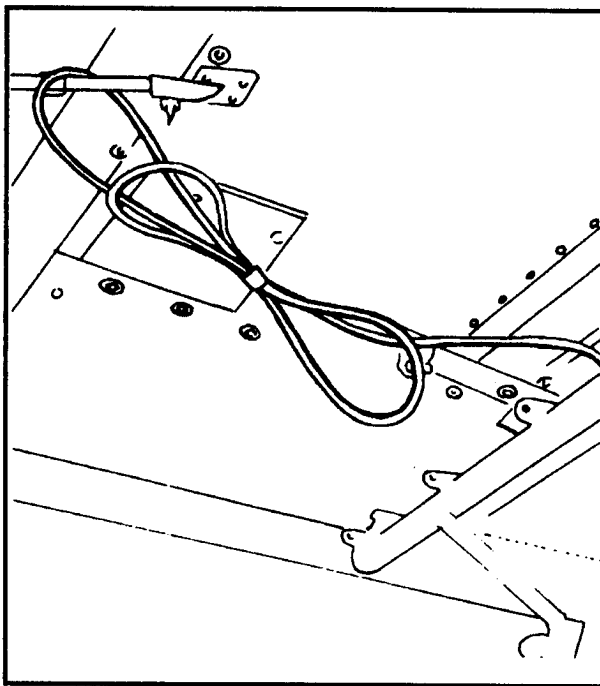

Figure 17-11. UH-60A JM's intercomm extension cord stowed overhead.
(3) Cargo doors are locked in the open position and cleared for closing, depending on mission requirements.
(4) The anchor line system is complete, serviceable, and properly installed.
(5) Three serviceable safety belts (modified) are installed on the cargo floor.
(6) A headset/helmet and intercommunications (intercomm) jack for the JM are available and operational, and the intercomm extension cord is secured overhead. The JM's intercomm cord is extended to the rear, over the aft utility drain line, and taped to the overhead troop seat support tube (Figure 17-11).
(7) Safety harnesses and backpack-type emergency parachutes are available for the JM and the crew chief, as required.